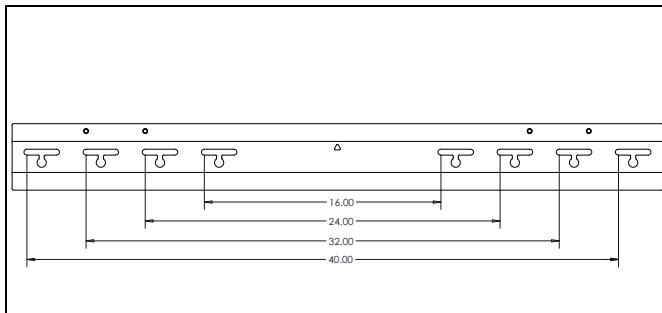

Figure 1
1. Using the information included in the **Dimensions** drawings and Figure 1, determine where to center and attach the top wall plate of the PSMHO2089/2146.